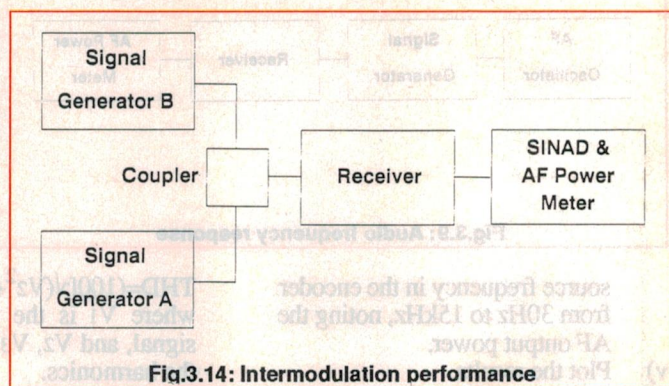

Fig.3.14: Intermodulation performance
- i) Connect the equipment as shown in Fig.3.14.